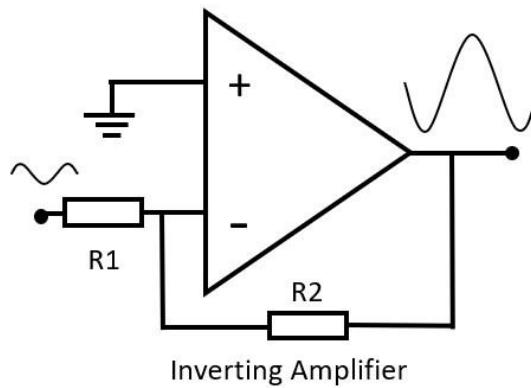

Figure 3: Inverting amplifier.
2. **The Inverting amplifier** changes the signal by 180 degrees. The gain of the amplifier is determined by the ratio of  $R_1$  and  $R_2$  (Figure 3).